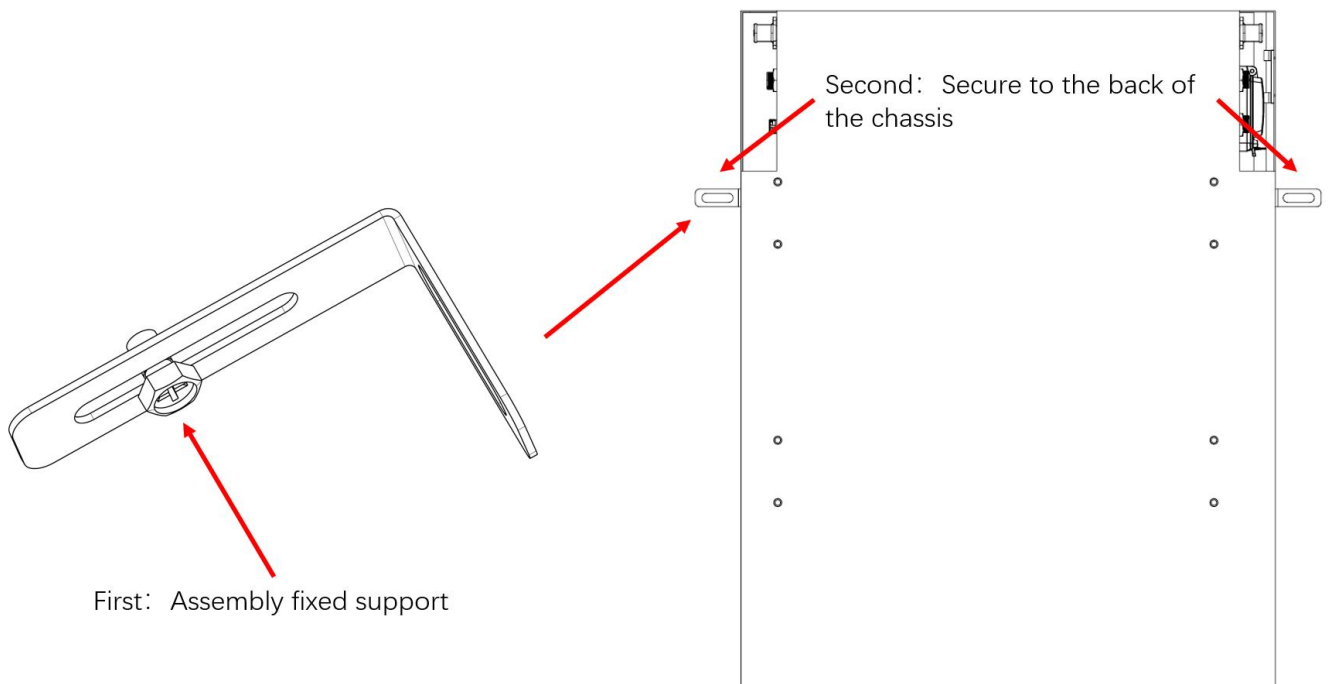

Figure 5-4
c) Use the 4 screws of M6*10 to fix the left and right retaining ears to the back of the battery, as shown in Figure 5-4.